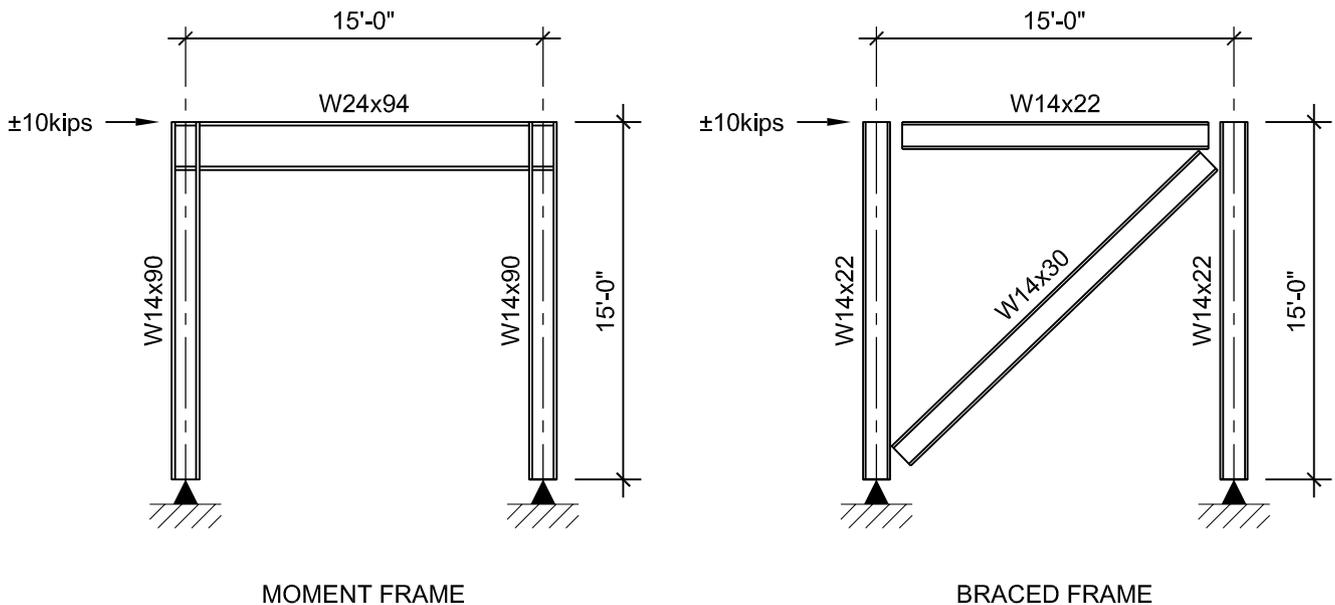

Figure 1: A recent cost study resulted in an increase in installed price of approximately 250 percent for the moment frame as compared with a braced frame.
**Cost comparison study** — Figure 1 shows a typical moment frame and braced frame for a 15-foot-wide by 15-foot-tall, two-dimensional steel frame. The structural sizes shown were designed for strength per AISC LRFD for a  $\pm 10$  kip lateral load (using a factor of 1.3 to simulate wind) and for serviceability to withstand  $L/400$  (which in this example = 15 feet / 400 = 0.45 inches) lateral drift. Columns in this example were also upsized as required to eliminate the need for doubler plates, and were pinned at their bases. Based on estimates from W&W Steel LLC in Oklahoma City, the installed price (material, shipping, fabrication, and erection) for the sample moment frame would be approximately \$8,141, and the braced frame would be approximately \$3,185, resulting in an increased cost of approximately 250 percent. The industry range for cost